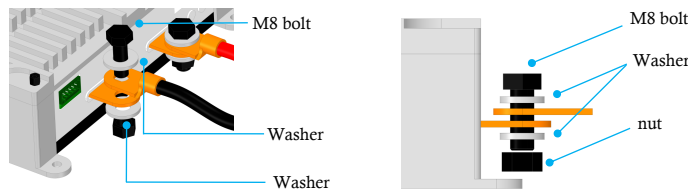

Fig. 3: Cable connection
Please make sure the washers and screw of battery and motor have been fixed tight enough (see Fig 3). When connect power wires to battery, it is IMPORTANT to correctly connect positive to positive, and negative to negative. Swap any two motor wires' connecting can change the rotation direction.
Step ②: Connect ESC to brushless motor (see: Fig.3)
Step ④: Connect negative(-) and positive(+) of ESC to the battery pack (see: Fig. 3)